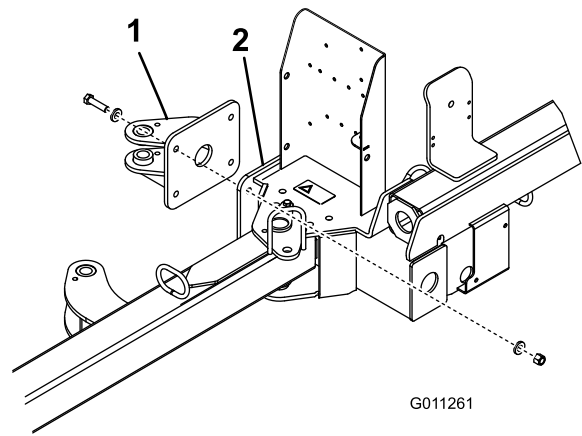

Figure 5
- Mount the rear actuator tab to the sweeper frame with (4) $1/2 \times 2$ inch bolts, (8) $.531 \times .063$ flat washers and (4) $1/2$ inch locknuts. Position the components as shown in Figure 5.